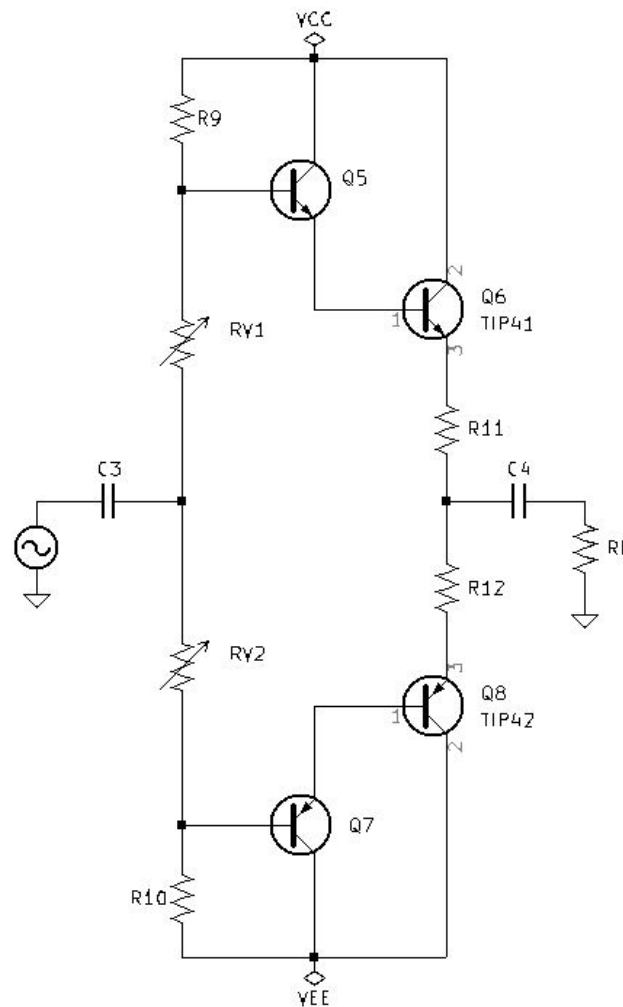

Figure 6.3: Push Pull Amplifier Calibration Circuit.
4. See Figure 6.3 *Push Pull Amplifier Calibration Circuit* on page 59. Replace the diodes D1 and D2 with a variable 10-turn variable resistor. This resistor can be calculated using the formula $R_{var} \approx \frac{1.4V}{I_{Diode}}$. Make sure the variable resistor is capable of going just above the calculated resistance. In the circuit, replace diodes D1 and D2 with the 10-turn variable resistor and adjust the variable resistor to 0Ω . Repeat this step for diodes D3 and D4.